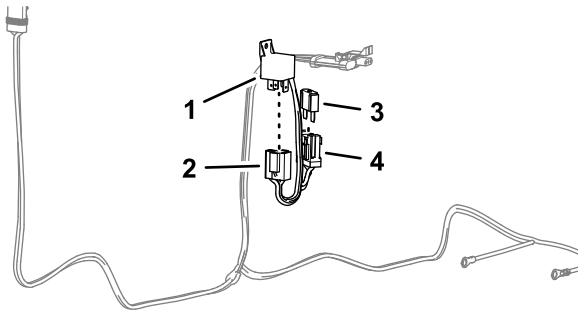

Figure 3
1. Assemble the relay into the 4-contact connector of the power harness (Figure 3).
2. Insert the fuse (60 A) into the socket of the fuse-holder for the power harness (Figure 3).